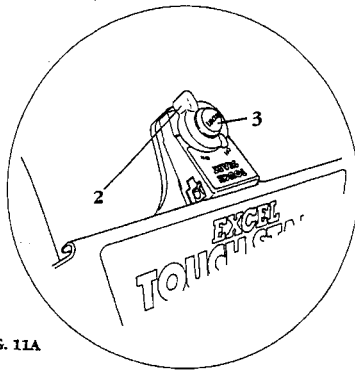

FIG. 11A
- b. (FIG. 11A) Stop switch (2) has two positions, one allowing the engine to run, the other shutting it off immediately.
- c. (FIG. 11A) Start button (3) is used to activate the built-in starter motor, which starts the engine.